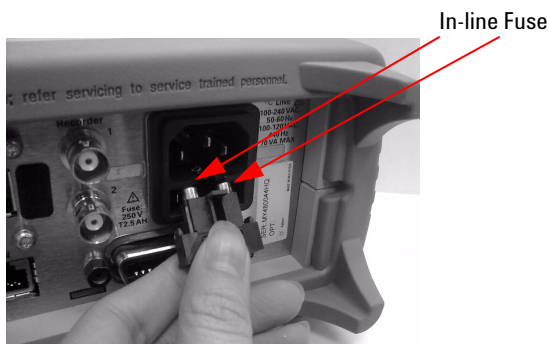

Figure 9-3 Replacing the fuses
- 1 Slide the fuse holder assembly from the rear panel as shown in Figure 9-3.
- 2 Install the correct fuses in the respective “In line” positions as shown in Figure 9-3. (The N1913A/1914A requires two fuses.)